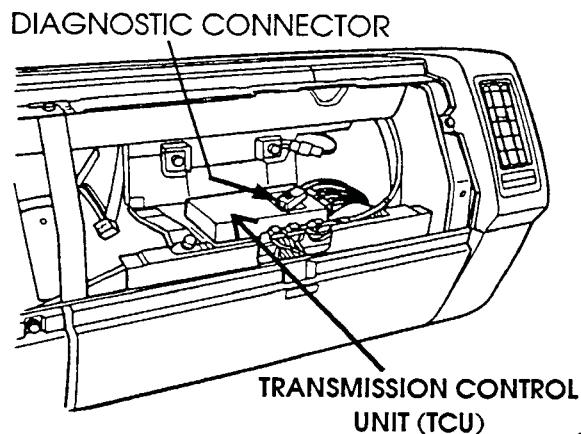
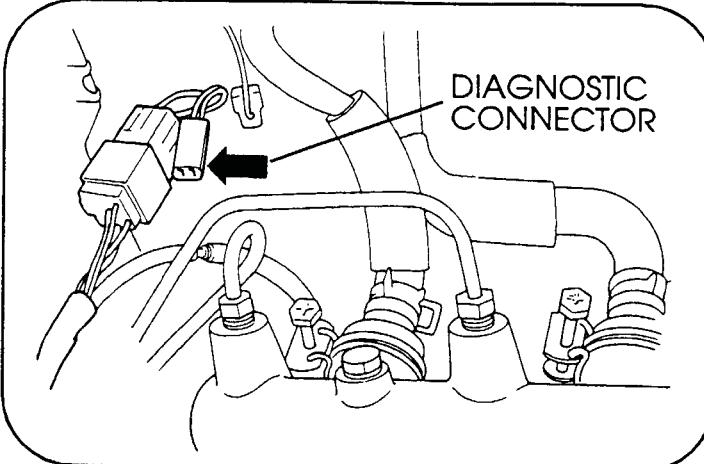
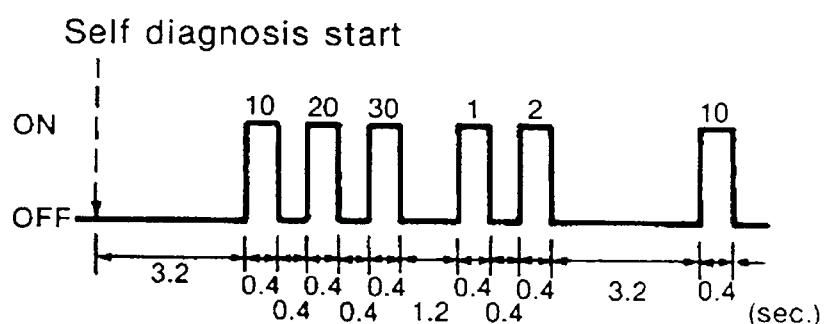

Figure 7
Figure 8
Figure 9
**Retrieving Codes:** The trouble codes stored in the computers memory can be retrieved by jumping two leads in a diagnostic connector. 1991 vehicles have this diagnostic connector located behind the glove box as shown in Figure 7. 1992 and 1993 vehicles have this connector located under the brake and clutch fluid tank as shown in Figure 8. This connector is white in color and has a yellow wire with a black tracer and a solid black wire in the connector. When these two leads are connected together, the ECONOMY light will flash a TWO DIGIT code and repeat the code three times (See Figure 9). If there is more than 1 code stored in the computers memory, the lowest code number will be displayed first. Each code is displayed 3 times in a row before the next code comes up. Refer to Figure 10 for the list of TWO DIGIT codes for 1991 to 1993 vehicles.